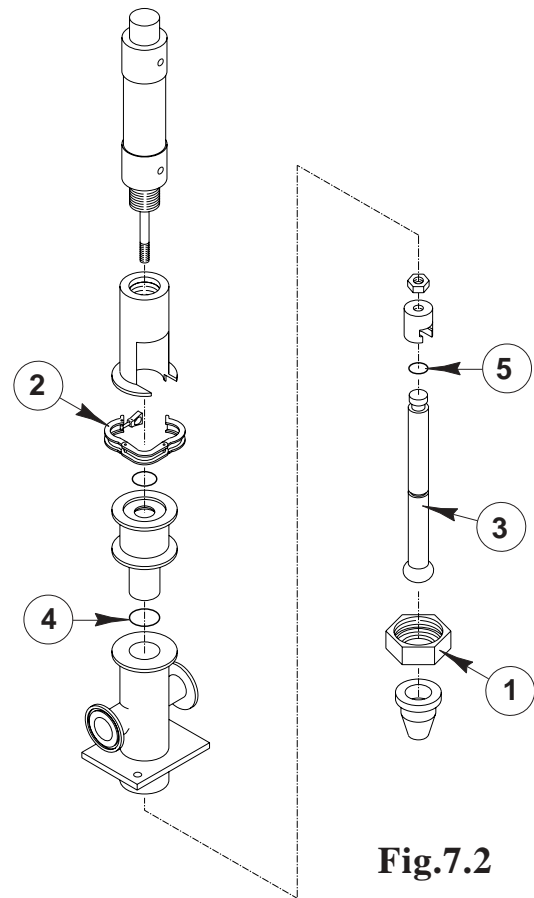

Fig.7.2
- unscrew the bottom ring nut (*Pos. 1, Fig. 7.2*);
- open the clamp joining the lower and upper parts (*Pos. 2, Fig. 7.2*);
- extract the doser piston shaft (*Pos. 3, Fig. 7.2*).
With the doser dismantled, check the efficiency of the O-rings (*Pos. 4-5, Fig. 7.2*) on the stem.